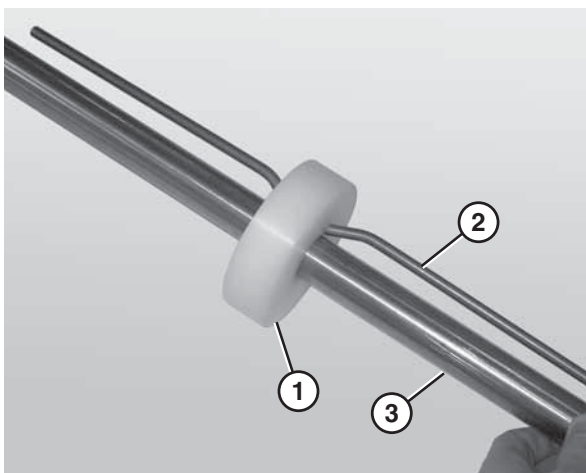

Figure 79
1. Place the idler puck (**Figure 79, item 1**) at the center of the bent retaining bar (**Figure 79, item 2**).
2. Slide the idler puck onto the idler shaft (**Figure 79, item 3**). Make sure to center the idler puck.